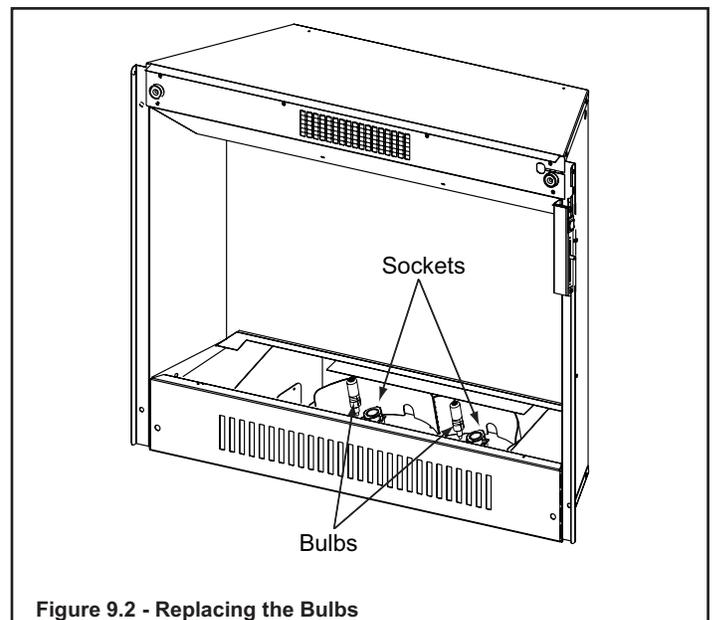

Figure 9.2 - Replacing the Bulbs
- Carefully remove the burned out bulb from the light socket. Place the new bulb in the socket. See Figure 9.2. **Follow directions on the light bulb package for handling requirements.**